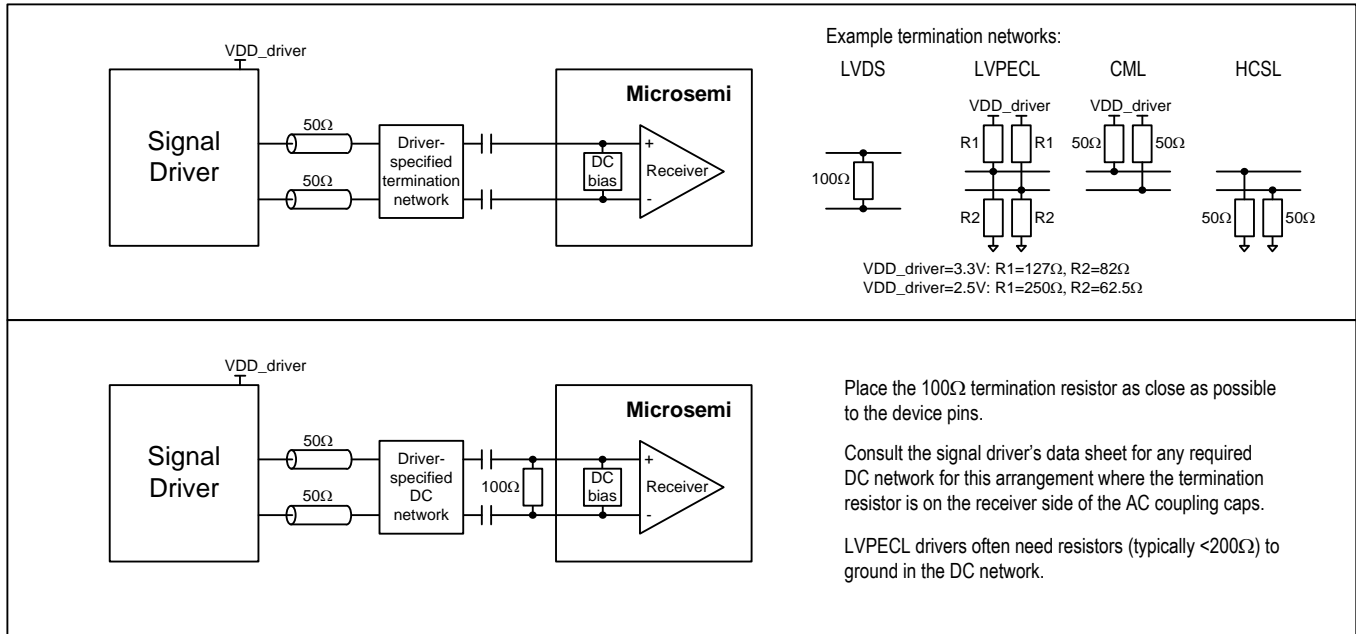

Figure 21 - Example External Components for Differential Input Signals
- Note 3:** **Differential signals.** The differential inputs can easily be interfaced to neighboring ICs driving LVDS, LVPECL, CML, HCSL, HSTL or other differential signal formats using a few external passive components. In general, Microsemi recommends terminating the signal with the termination/load recommended in the neighboring component's data sheet and then AC-coupling the signal into the ICxP/ICxN pins. See Figure 21 for details. To connect a differential signal to IC3, AC-couple one side of the signal to IC3P and AC-couple the other side to VSS. For DC-coupling, treat the input as 1.8V CML.